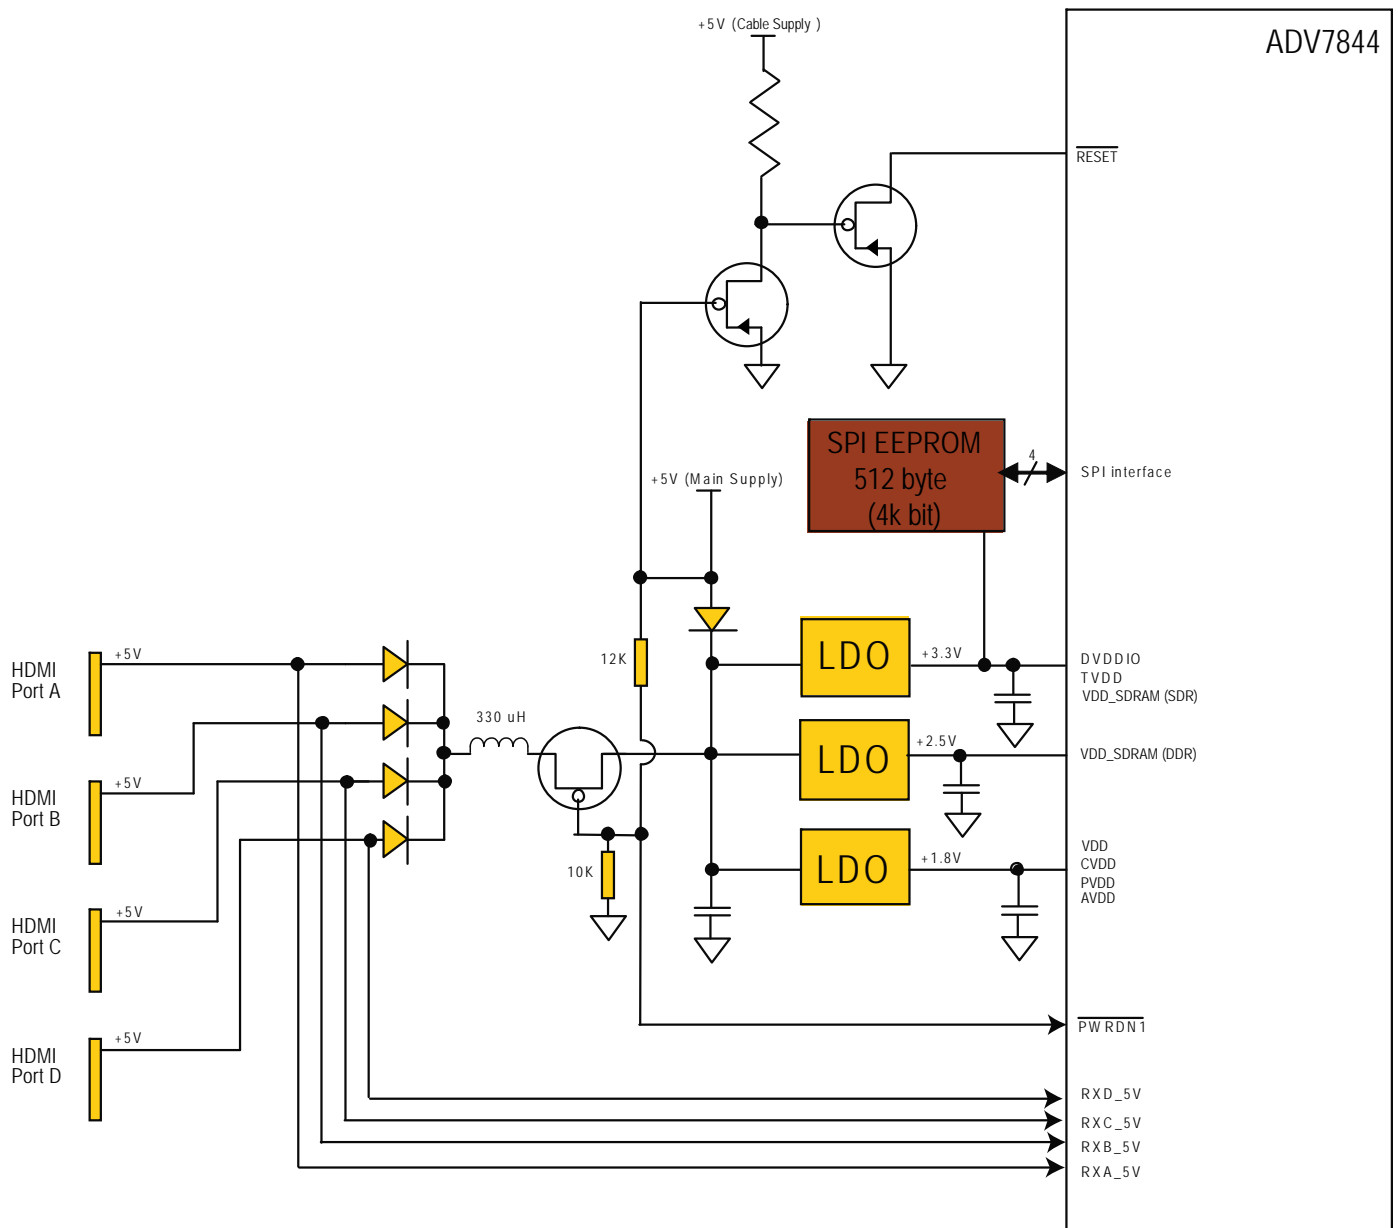

Figure 4: Required Hardware Configuration when Using +5 V from HDMI Source(s) to Provide Supplies in Power-down Mode 0 or 1
The ADV7842 should be put into power-down mode 0 by feeding a low voltage on the PWRDWN1 pin. Refer to Figure 4 for the required hardware configuration.
The configuration shown in Figure 4 is required for hardware power-down with internal E-EDID availability.
- The $\overline{\text{RESET}}$ pin must go low before or at the same time as the $\overline{\text{PWRDN1}}$ goes low. The circuitry in Figure 4 is required to ensure this occurs. It is important to note that this requirement must be met even if the main supply is removed without notice, for example, if a TV is disconnected abruptly from the wall socket.